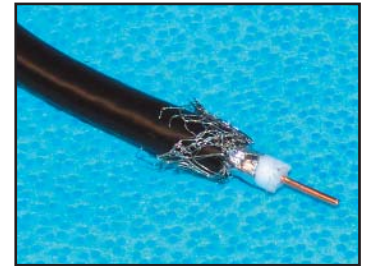

Figure 2
22. Use a coaxial cable stripper to remove 1/4" of the inner cable insulation from each cable end, exposing the center conductor. See Figure 2.